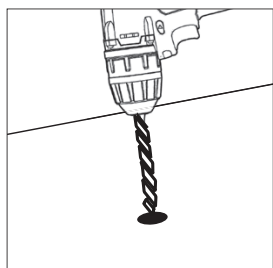
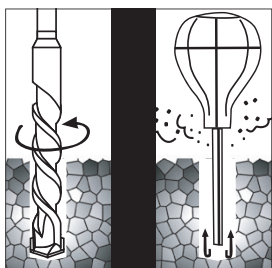

Figure 6
Figure 7
6. Move the safe aside to clear the marked spot for drilling. Then drill a $\frac{5}{8}$ in./16mm diameter hole with a depth of 2 $\frac{1}{8}$ in./54mm and remove any excess dust (Figure 6 and Figure 7).